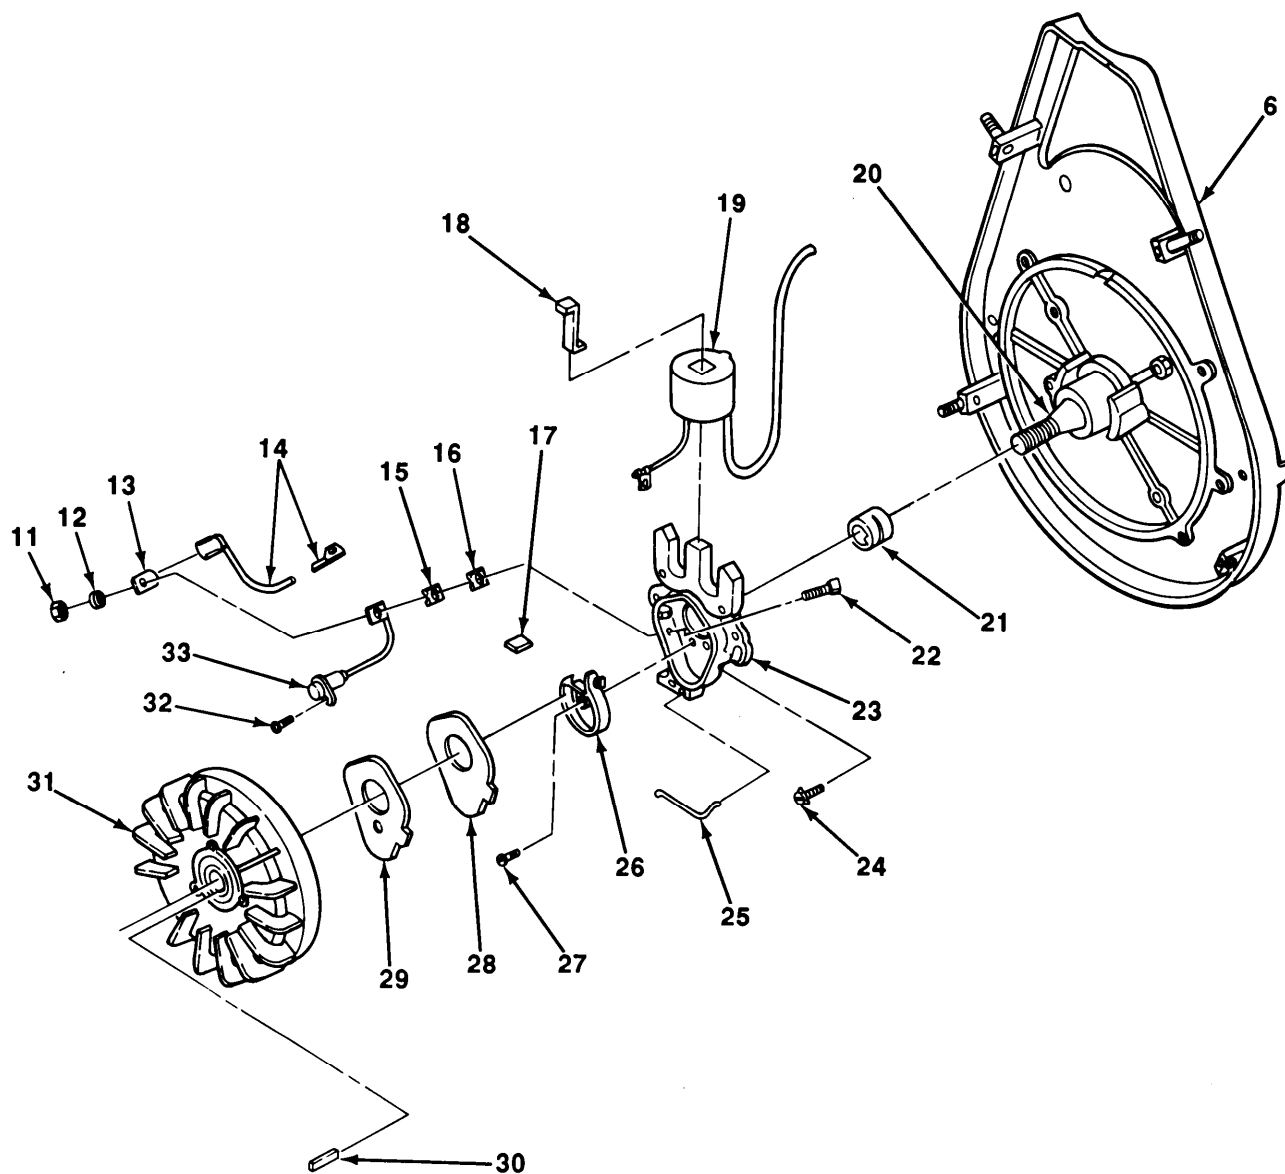

Figure 9-2. Stator Plate Replacement.
**Refer to Figure 9-2, Stator Plate Replacement, for steps f through m.**
- f. Remove flywheel (31) and woodruff key (30) from crankshaft (20). Discard woodruff key.
- g. Move one end of breaker cover spring (25) to the side and remove cover (29) and gasket (28) from stator plate (23). Discard gasket.
- h. Remove nut (11), lockwasher (12), connector (13), and capacitor wire lead (14) from stator plate (23). Discard lockwasher.
**Refer to Figure 9-2, Stator Plate Replacement, for steps a through i.**
- a. Install cam (21) on crankshaft (20).
- b. install stator plate (23) on crankshaft support (6) with two screws (24).
- c. install cam (17).
- d. install contact set (26) on stator plate (23) with screw (27).
- f. install coil assembly (19) and spring wedge (18) on stator plate (23).
- g. install capacitor (33) on stator plate (23) with screw (32).
- h. install two connectors (15 and 16), capacitor (33) and connector (13) on stator plate (23) with screw (22), new lockwasher (12), and nut (11).
- i. install capacitor wire lead (14) on connector (13).
- j. install new gasket (28) and cover (29) on stator plate (23) with breaker cover spring (25).